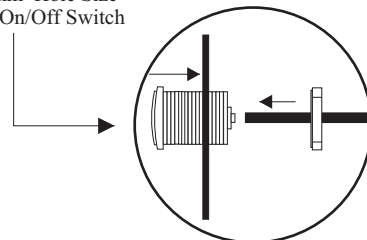

Figure 1
1. Make a hole ( 37mm) for the On/Off switch as shown (see fig 1). Pre- drill Required.